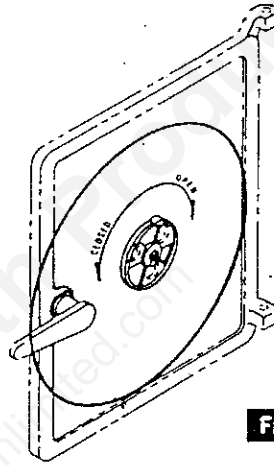

FIG. 13
- d. Adjust air shutter on feed door damper from closed to open position for better burning. (See Fig. 13).